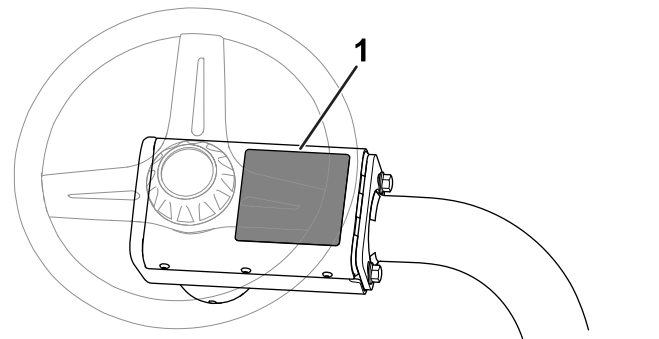

Figure 14
- Apply the CE warning decal (Part No. 136-8505) over the existing warning decal (Part No. 136-8506); refer to Figure 14.